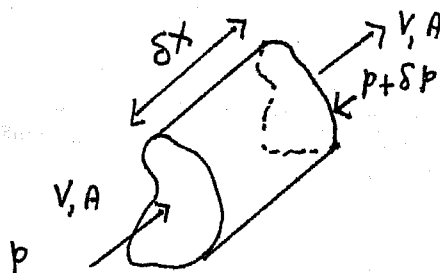

FIGURE 1a
1) A small portion of a rigid pipe of uniform cross-section, of length δx is shown in Figure 1a. An incompressible fluid, of density ρ , enters at one end and exits at the other end. The fluid flows through the stream tube at a velocity $v(x,t)$ under a pressure $p(x,t)$.